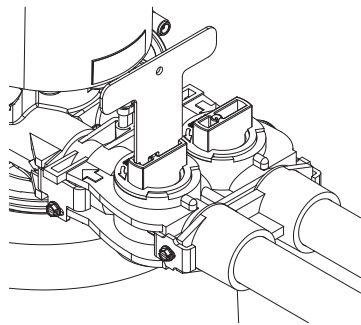

Figure 4
- Ensure that the bypass valve is in bypass position. The valve handles should be perpendicular to the pipes (see figure 4).
**Important Note:** Short connections of pipe may allow hot water to back up into the system. Recommend at least 10 linear feet or three (3) linear meters of pipe between Conditioner and Water Heater.